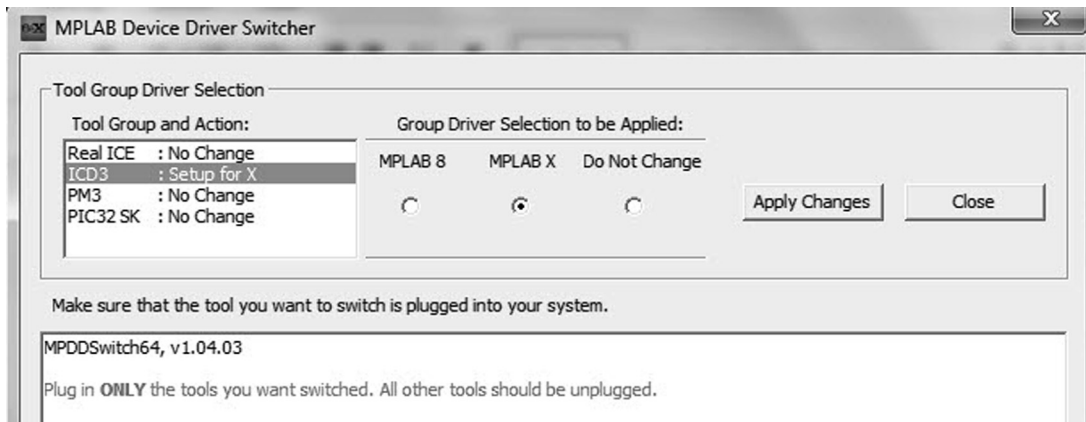

Figure 3.19: Driver Switcher Window.
- Select All Programs → Microchip → MPLAB X IDE → MPLAB driver switcher. You should see a window as in Figure 3.19.